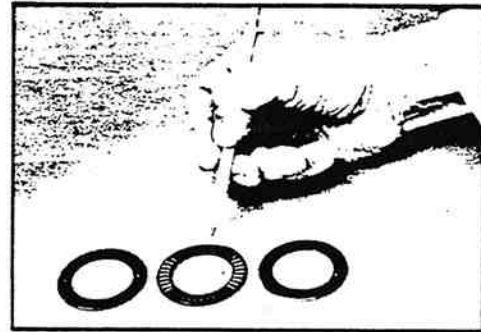

Figure 11-53. Thrust Bearing and Washers.
6. Inspect the housing bearing (2) for brinelling or spalling (figure 11-51). If either condition exists, or if one or more of the rollers is lost, replace the bearing (figure 11-53).
8. Inspect the thrust bearing rollers (23) for any deterioration. Inspect the two thrust washers (22) for brinelling, spalling or cracks. Replace any part if you detect these conditions (figure 11-53).